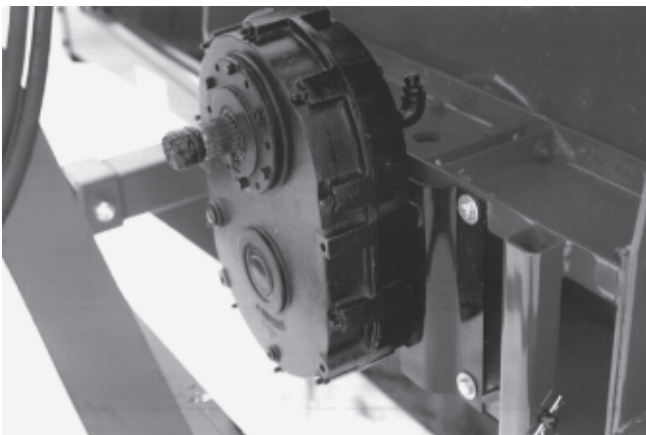

Figure 17
- 3) If your snowblower is equipped with the optional 1000 to 540 RPM reducer, install it on the gear box with the plate included (Fig. 17). With the 1000/540 rpm reducer, you must use the P.T.O. shaft # 9569 and a shear bolt M10 x 60 mm.